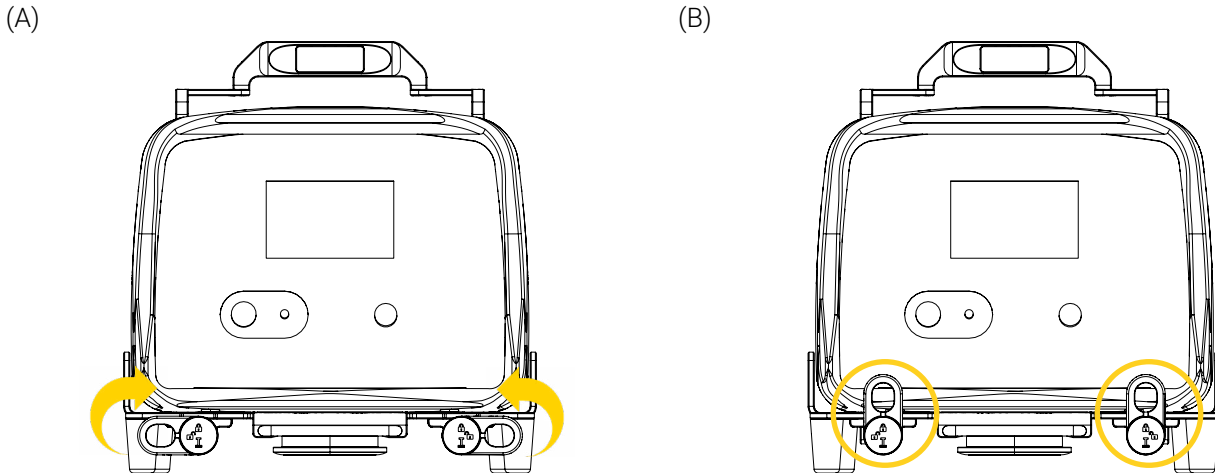

Figure 8: Securing the medical device in the BP310 – FL
3. Lock the mounting bracket to secure the medical device using the rotary locks (Figure 8). Refer to the « Safety Mechanism » section on page 17 if needed.